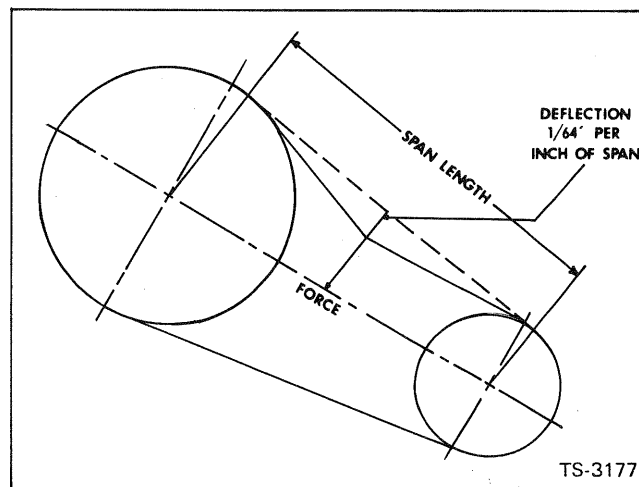

Fig. 4-1 Check Belt Tension
2. At the center of the span, apply a force with a spring scale (at right angles to the span) large enough to deflect the belt $\frac{1}{64}$ of an inch per inch of span. Fig. 4-1